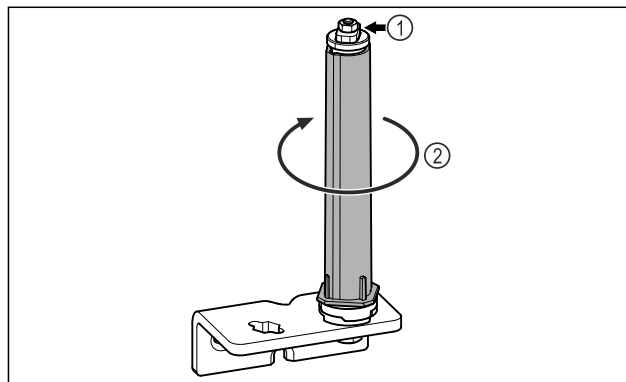

Fig. 22
- ▶ Do not dismantle the door locking system Fig. 22 (1).
- ▶ Turn the locking system Fig. 22 (2) until it clicks.